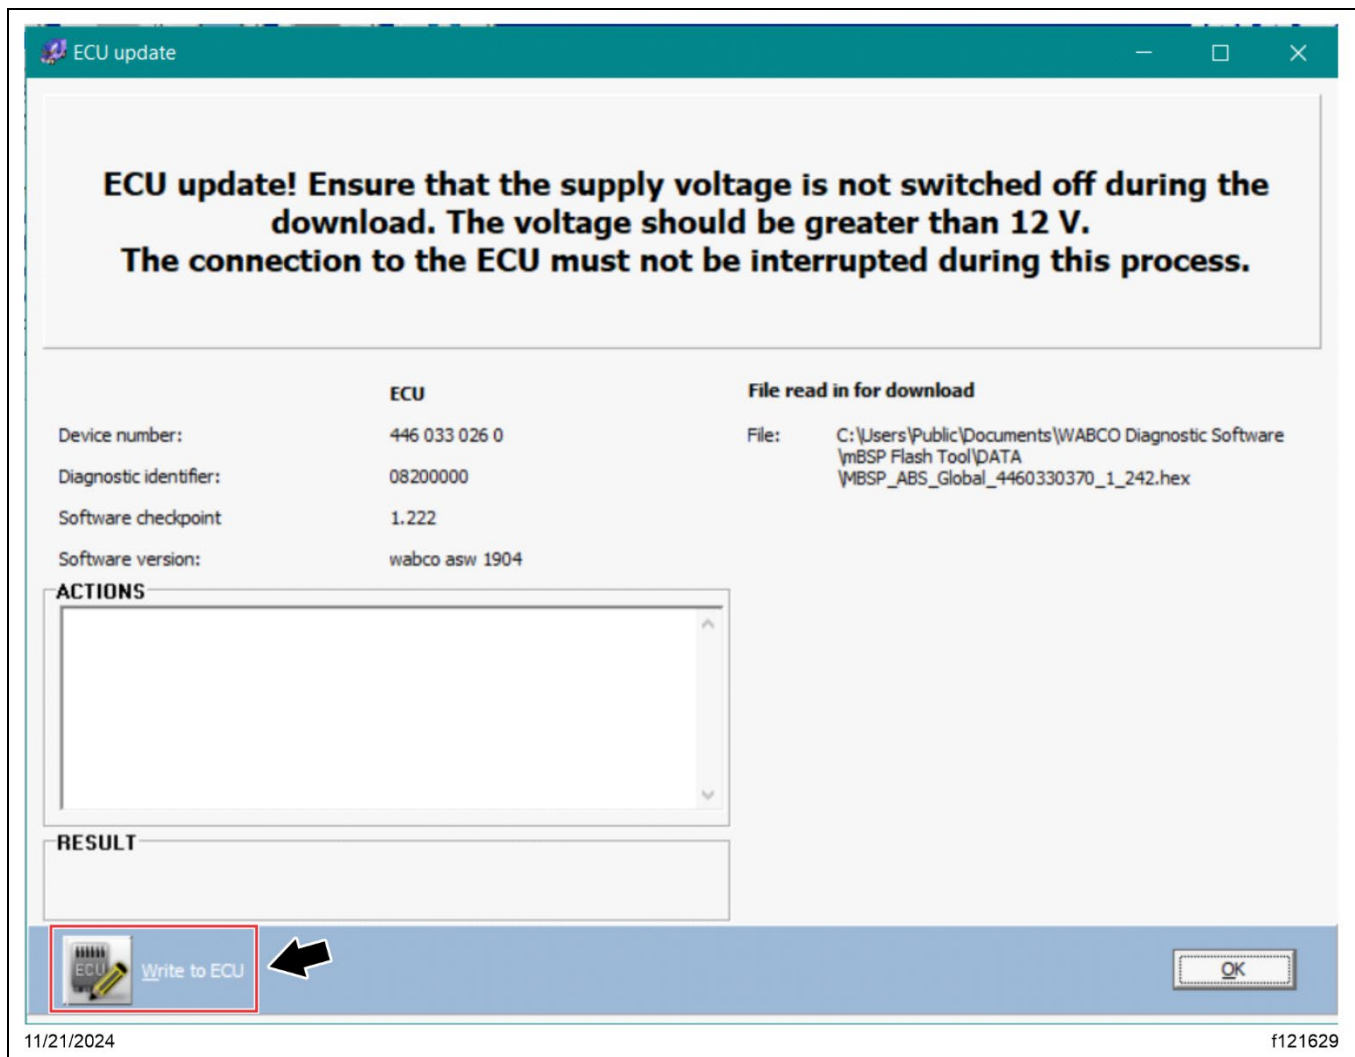

Fig. 52, Selecting the Write to ECU Button
15. In the 'ECU update' window, select the 'Write to ECU' button to begin the ECU update. Note that pressing the 'OK' button cancels the flash tool process. See Fig. 52.